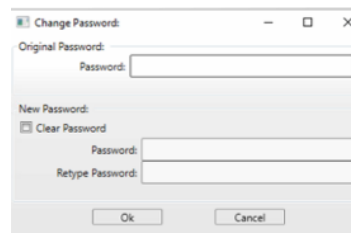

Figure 5.6: Change Password Prompt
- Select “Change Password” from the home screen to bring up the prompt shown in Figure 5.6.